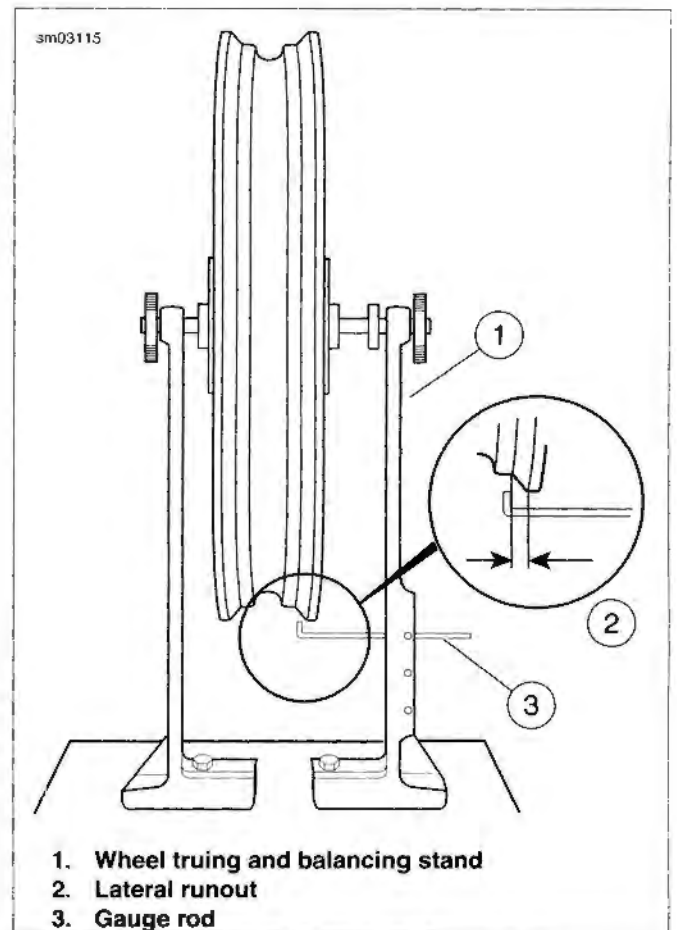

Figure 2-26. Checking Lateral Runout
1. See Figure 2-26. With the wheel mounted in WHEEL TRUING STAND (Part No. HD-99500-80), adjust the gauge rod (3) near the rim bead flange.
2. Rotate the rim slowly and check lateral runout (2). If runout exceeds 0.030 in. (0.76 mm), adjust spokes as follows.